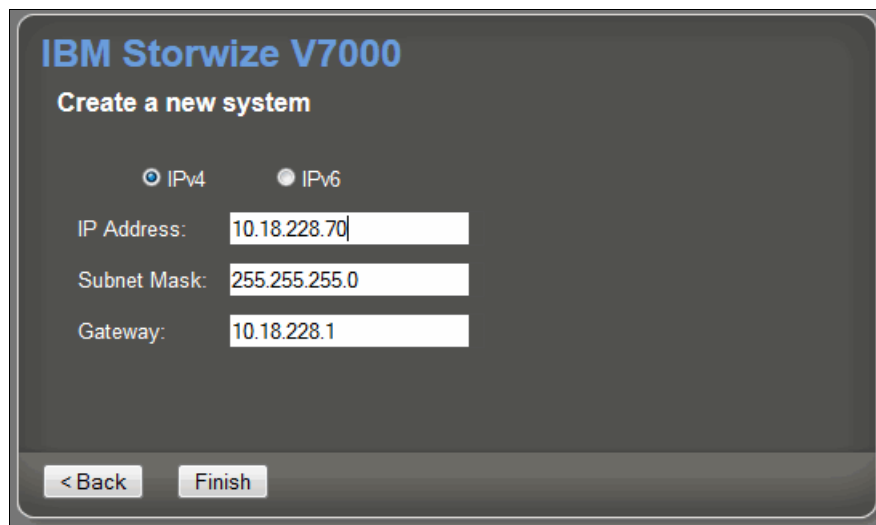

Figure 5-5 Setting the IP address
5. The next window will ask you to set an IP address for the cluster. You can choose between an IPv4 or IPv6 address. In Figure 5-5, we have set an IPv4 address.